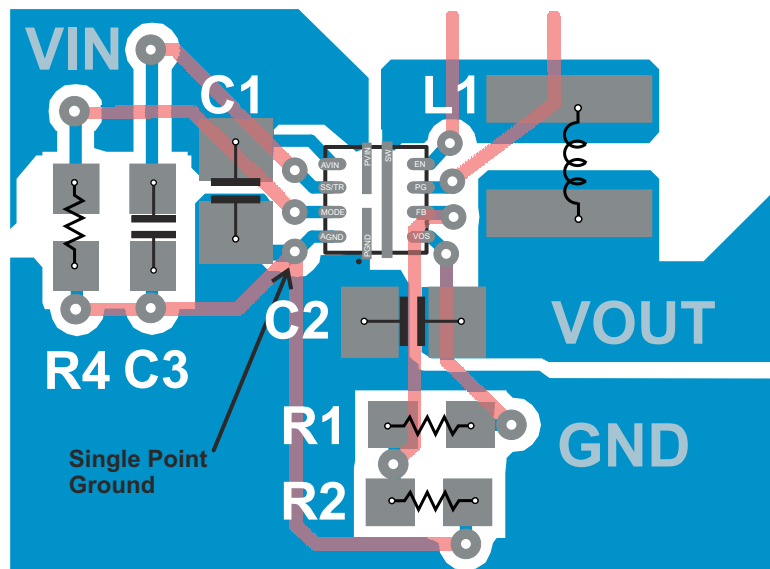

Figure 11-1. TPS62097 PCB Layout
- Refer to the Figure 11-1 for an example of component placement, routing, and thermal design.